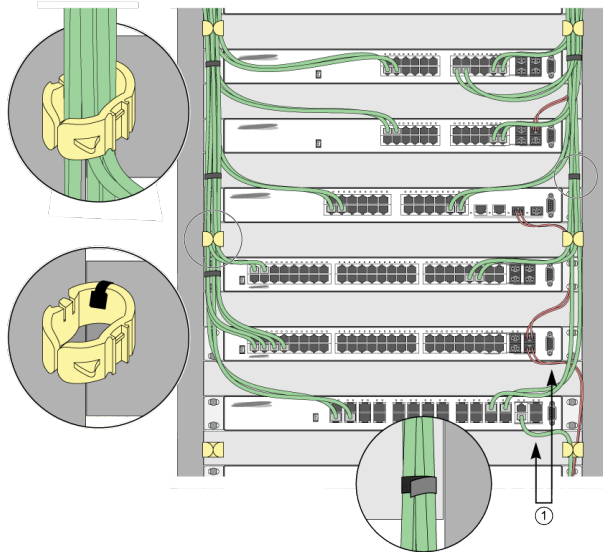

Figure 13: Properly Installed and Bundled Cable
- Provide enough slack, approximately 5 to 7.5 cm (2 to 3 in), to provide proper strain relief as shown in Figure 13 on page 35.
- When installing a patch panel using twisted pair wiring, untwist no more than 2.5 cm (1 in) of the cable to avoid radio frequency (RF) interference.